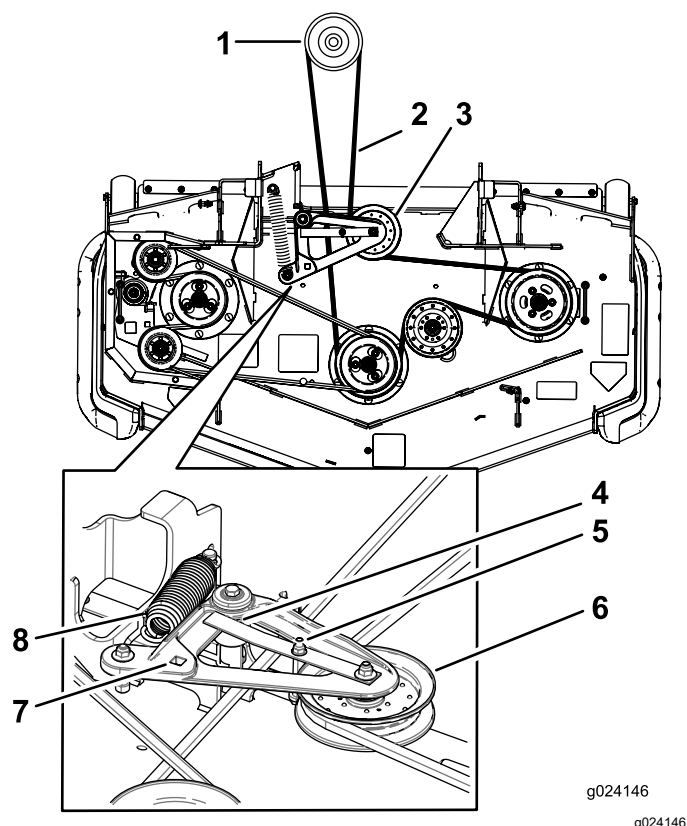

Figure 95
9. Install the new belt around the mower pulleys and the clutch pulley under the engine (Figure 95).
10. Rotate and ensure the belt-guide tab hits against the pivot hub (Figure 95).
11. Using the ratchet in the square hole, install the belt around the spring-loaded idler pulley (Figure 95). Seat the spring ends in the anchor grooves.